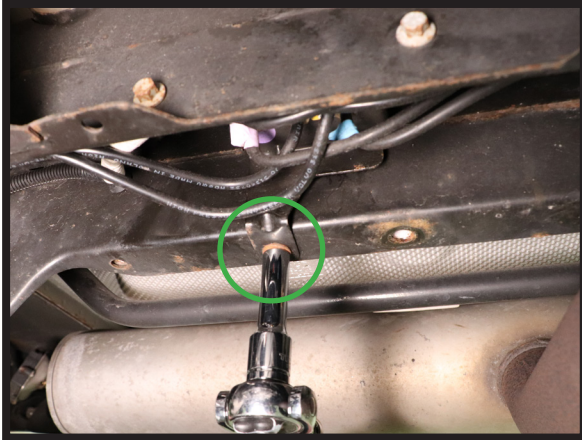

FIGURE 5
5. REMOVE THREE (3) VALVE BLOCK BRACKET BOLTS. (FIGURES 5, 6, 7)